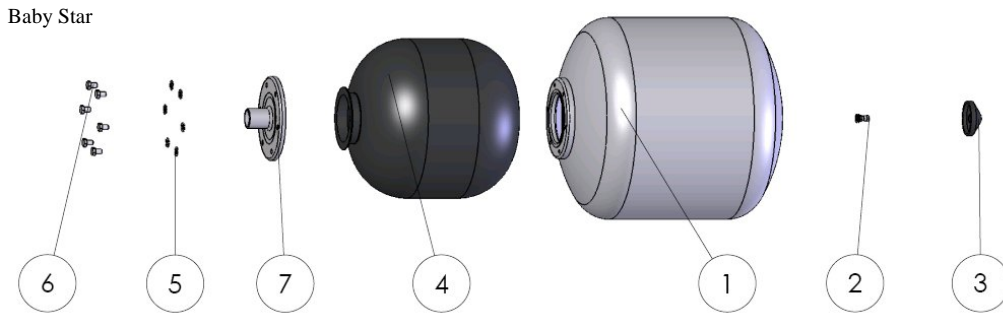

Figure 1
2. Remove the pre-charging with the air-ventil (see figure 1 or 2)
3. Loosen the screws fastening the flange (see figure 1 or 2)
4. Remove the flange (see figure 1 or 2)